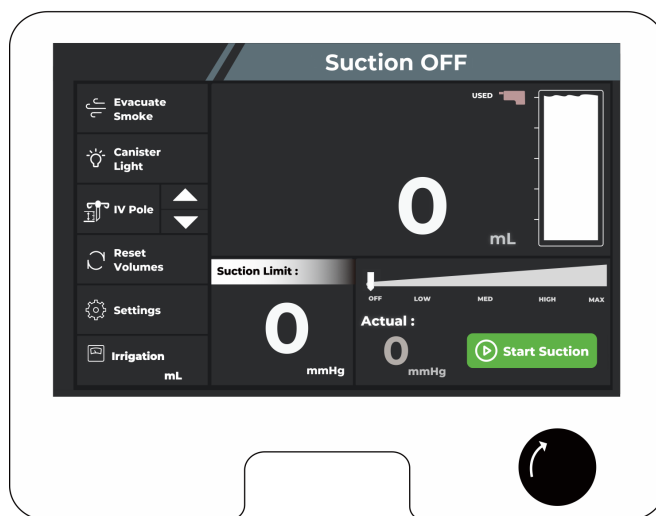

Figure 24 To Start and Adjust Fluid Suction
1. While viewing the suction gauge on the main display, turn the suction control dial to the level of suction required (Figure 24).